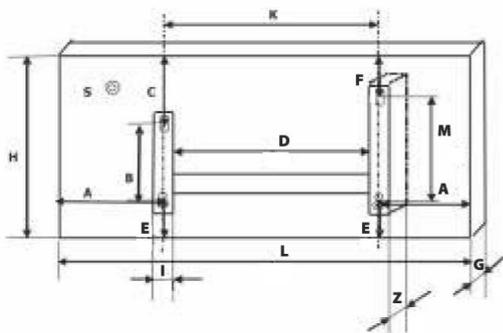

Fig. 2
Overall dimensions of the convector heater according to Fig. 2 are shown in Table 2
Installation dimensions of the convector heater according to Fig. 2 are shown in table 3.
3. In accordance with Fig. 2, 4 and tables 2, 3 specify a place for convector installation with observance of minimum distances from objects and minimum distance from the floor.